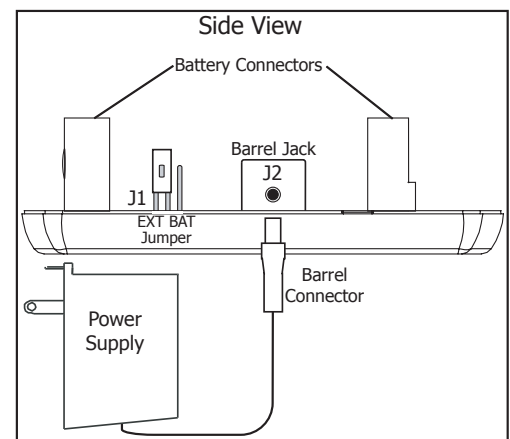

Figure 4: 1114 Side View
4. Place the 3.0V Lithium battery in the holder and press into place. See Figure 4 for Battery location.
4. Plug the barrel connector into the J2 barrel jack at the side of the 1114 cover. See Figure 4.
5. Plug the Model 378 barrel connector into the J2 barrel jack at the side of the 1114 cover. See Figure 4.
8. Plug the barrel connector into the J2 barrel jack at the side of the 1114 cover. See Figure 4.